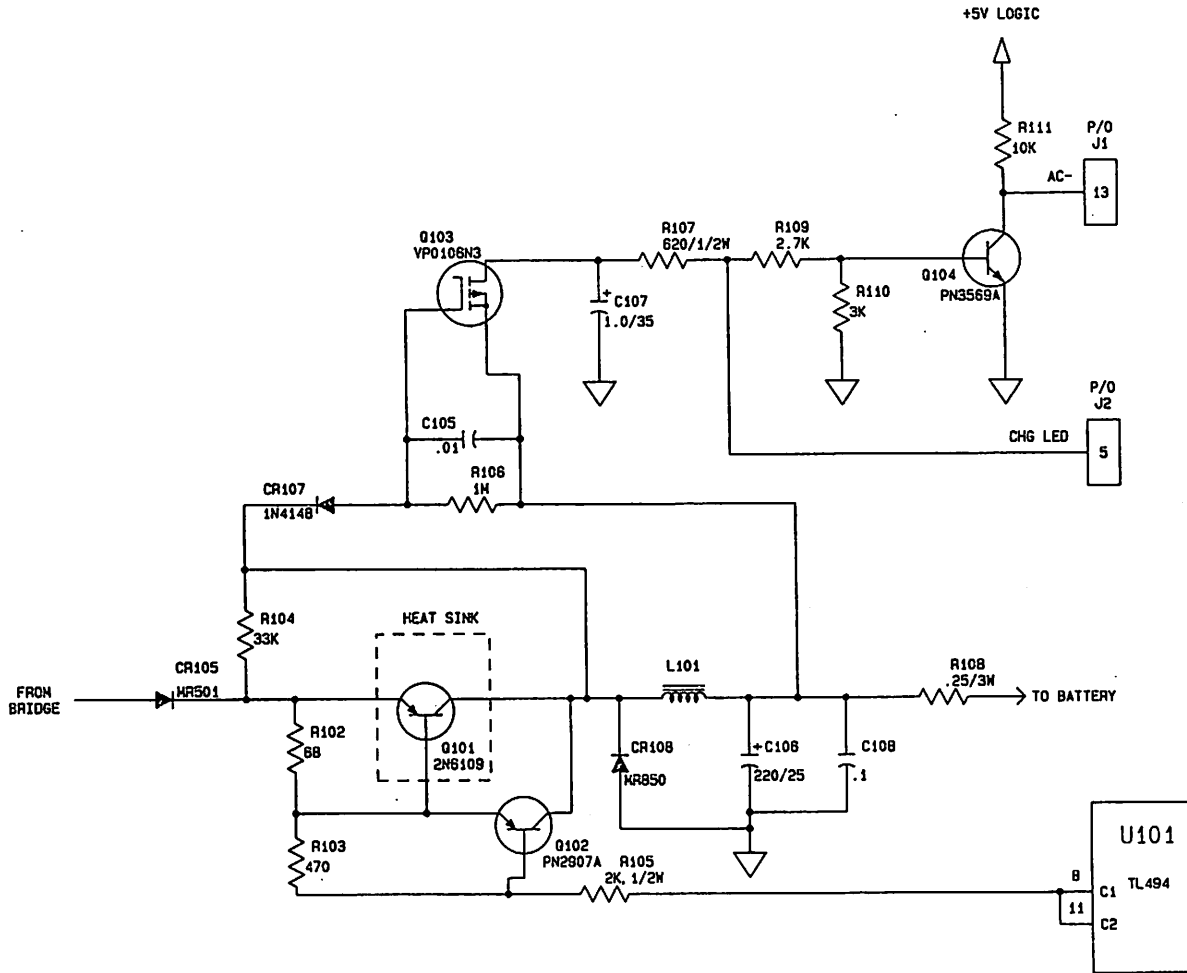

Figure 3-26. Battery Charge Indicator
3.9.4 Battery Charge Indicator (figure 3-26)